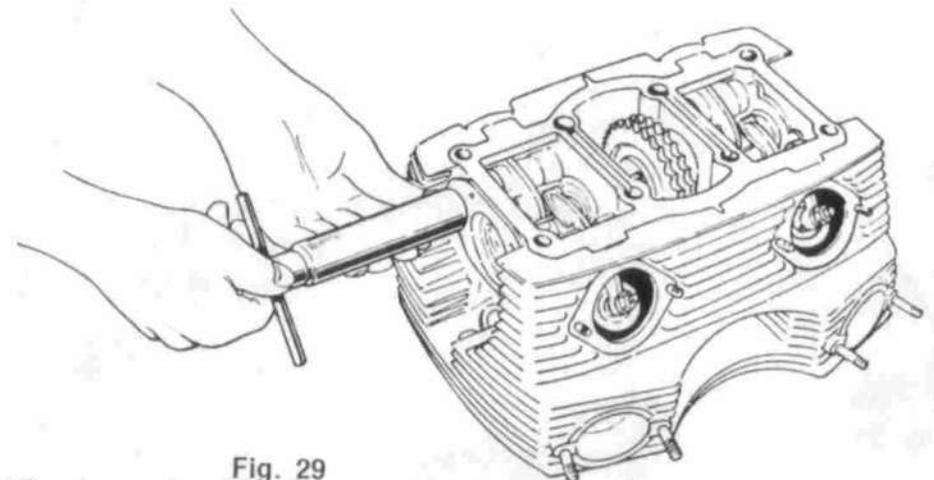

Fig. 29
- 6) Use the proper extractor and remove the four gudgeon pins thus detaching the rocking valves (Fig. 29).